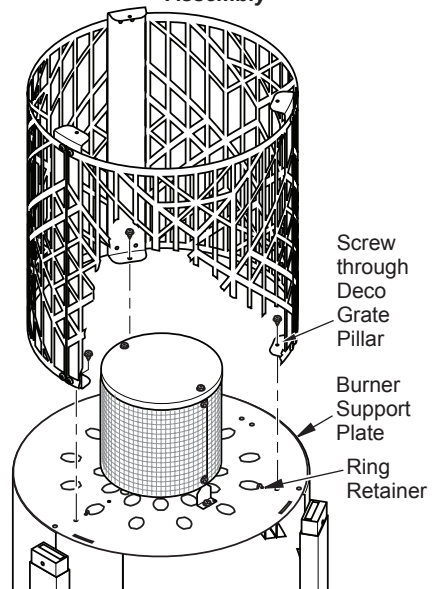
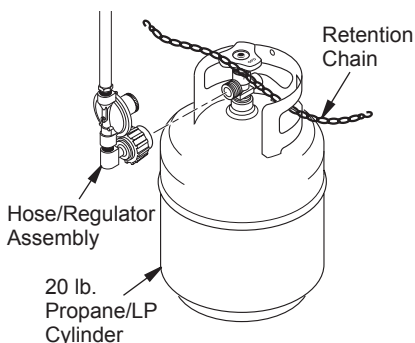

Figure 7 - Attaching Grate Assembly to Heater
Figure 12 - Connecting Hose/Regulator Assembly to Propane/LP Cylinder
13. Attach grate assembly to burner support plate using 3 screws, (C) one through bottom of each deco grate pillar (see Figure 7).
22. Place ring retainers ("S" hooks) through holes in burner support place as shown in Figure 7, page 6.
Use only a 20 lb. propane/LP cylinder (not included). See safety information for proper cylinder selection. Connect hose/regulator assembly to propane cylinder (see Figure 12). Hose should already be connected to heater. When connecting regulator assembly to cylinder valve, hand tighten nut clockwise to a positive stop. DO NOT use a wrench to tighten. Use of a wrench may damage quick closing coupling nuts and result in a hazardous condition.
Route retention chain through at least one handle of propane/LP tank (see Figure 12). Make sure to route chain through handle on tank and NOT around tank valve. Chain must not interfere with valve. Attach hooks on both ends of chains to ring retainers installed on burner support plate. See Figure 7, page 6.